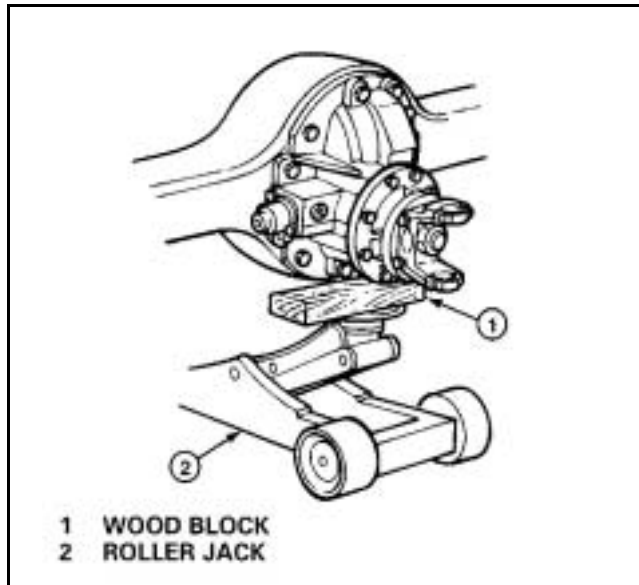

Figure 7
1. Place a hydraulic roller jack under the differential carrier to support the assembly. **Figure 7.**